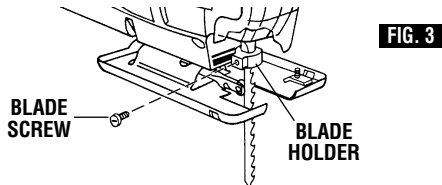

FIG. 3
1. Loosen blade screw in the blade holder and insert blade to full depth with teeth facing in direction of cut as shown in (Fig. 3).